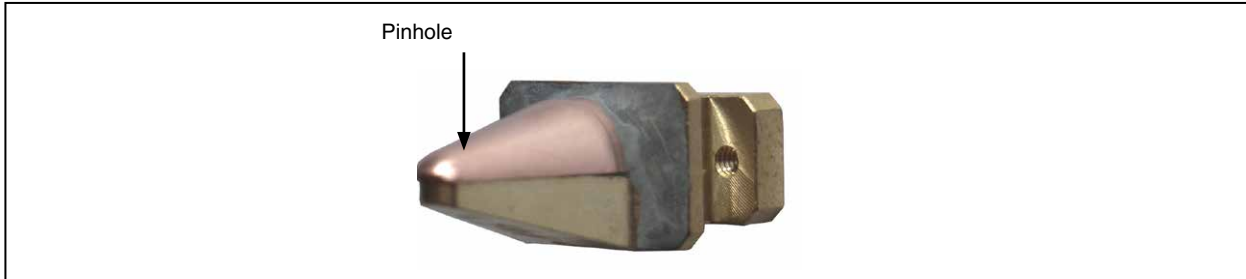

Fig. 14.4: Opening aperture (pin hole) in the measuring tip
8. Put in the new measuring tip (please note that the pinhole is located on the convex side, please see Fig. 14.4), or turn the measuring tip.